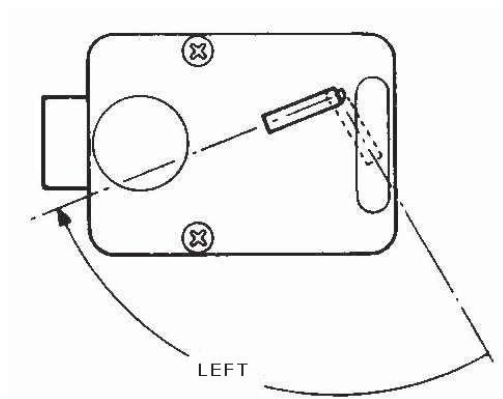

Figure 1
2. With the last number set at the changing index, hold the dial securely and insert the change key in the keyhole in the back of the lock. Make sure the wing is entirely inside the lock and comes to a positive stop (see Figure 1) before turning the key.
6. Turn the dial to the LEFT, stopping when the third number is aligned with the CHANGE Index, the SECOND time. Holding the dial in this position, turn the change key back to the RIGHT and remove it. (See Figure 1.) The new combination you have chosen is now set in the lock,